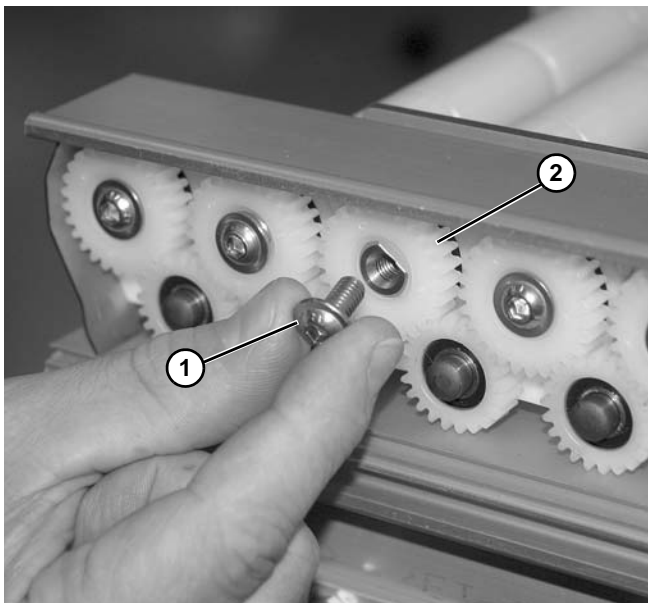

Figure 166
7. Remove screw (Figure 166, item 1) securing gear (Figure 166, item 2) on roller shaft.